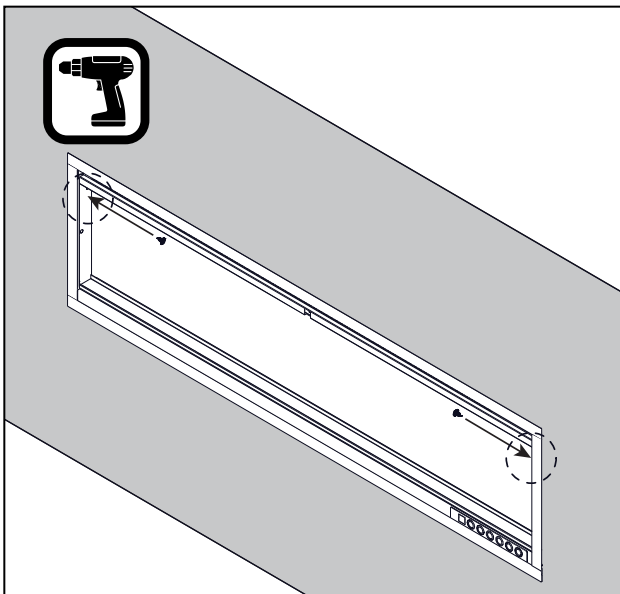

Fig 7
STEP 4: Secure the unit to the framing studs. (**Fig 7**).